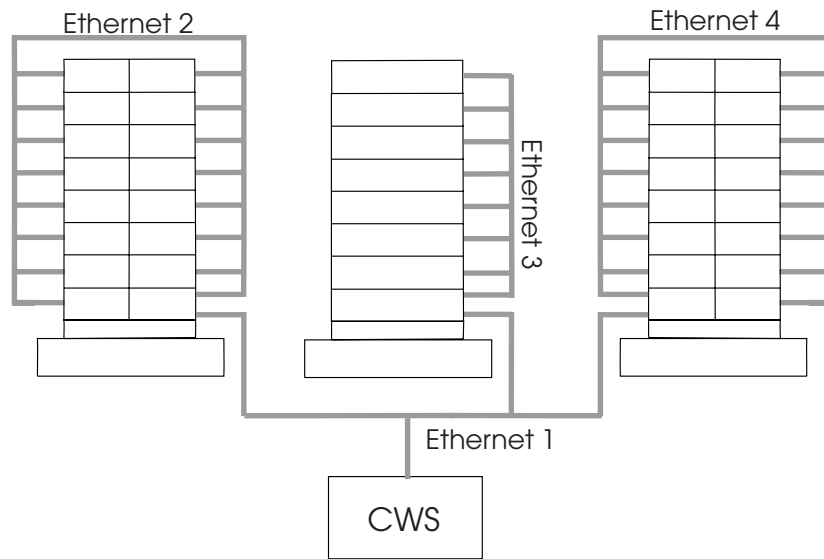

Figure 7. Method 2 Ethernet Topology for Multi-Frame SP System
2. A second approach designates the first node in each frame as a network install server, and then the remaining nodes of that frame are set to be installed by that node. This means that, from the control workstation, you will have an SP Ethernet segment connected to one node on each frame. Then the network install node in each frame has a second Ethernet card installed which is connected to an Ethernet card in the rest of the nodes in the frame. Figure 7 on page 77 shows an Ethernet topology for this multiple-frame system.